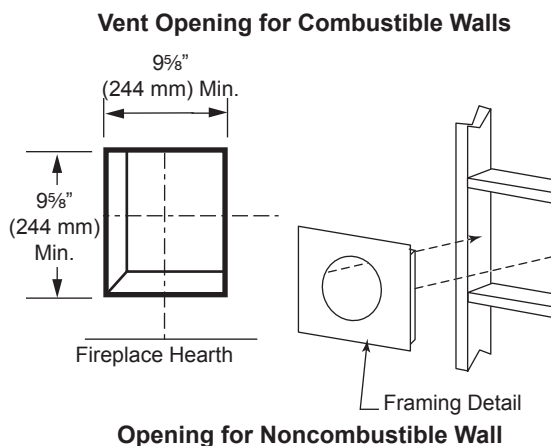

Figure 28 -
Locate vent opening on the wall. It may be necessary to first position the fireplace and measure to obtain hole location. Depending on whether the wall is combustible or noncombustible, cut opening to size. *Figure 28* (For combustible walls first frame in opening.)
Combustible Walls: Cut a 9⁵/₈"H x 9⁵/₈"W (244 x 244 mm) hole through the exterior wall and frame as shown. *Figure 28*
1. Establish vent hole through the wall. *Page 19, Figure 28*